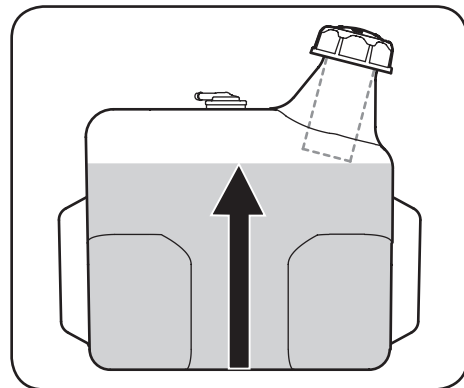

Figure 2-9
- Fill the fuel tank with gasoline. Use only clean, fresh (no more than 30 days old), unleaded gasoline. Fill tank to no more than ½" below bottom of filler neck to allow space for fuel expansion. See Figure 2-9.
filler neck to allow space for fuel expansion. See Figure 2-9.